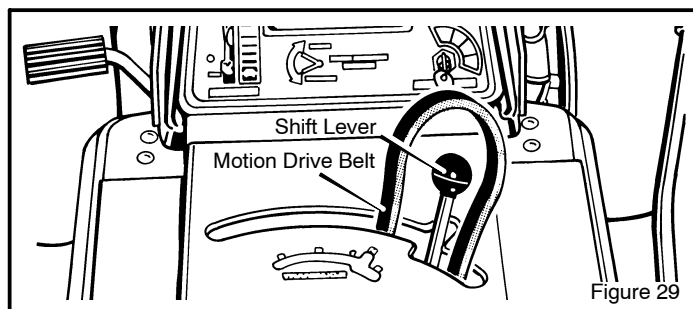

Figure 29
7. Put the end of the **motion drive belt** from the drive pulley through the hole for the **shift lever** (Figure 29). Move the **shift lever** and push the belt under the **shift lever**.
2. Push the **motion drive belt** through the hole in the frame for the **shift lever** (Figure 29). Lift the end of the belt over the **shift lever** and back down through the hole in the frame.